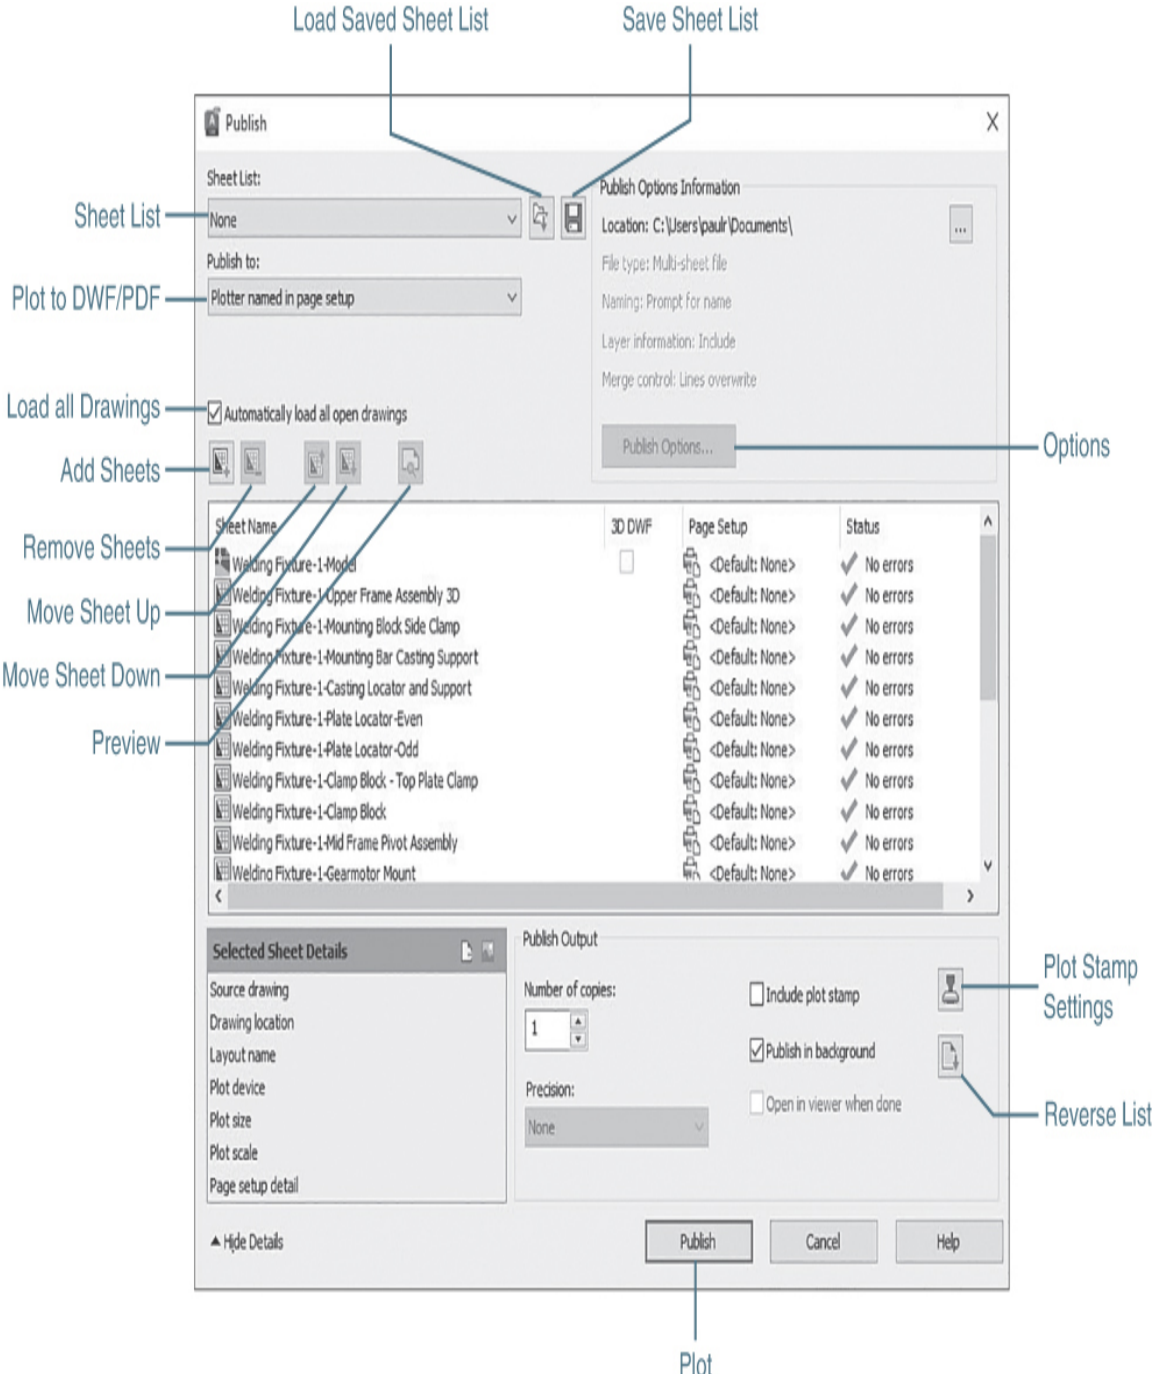

Figure 15-34
When you start the **PUBLISH** command, AutoCAD displays the **Publish** dialog box (see Figure 15-34).
- 2** Start the **PUBLISH** command to display the **Publish** dialog box (refer to Figure 15-34).